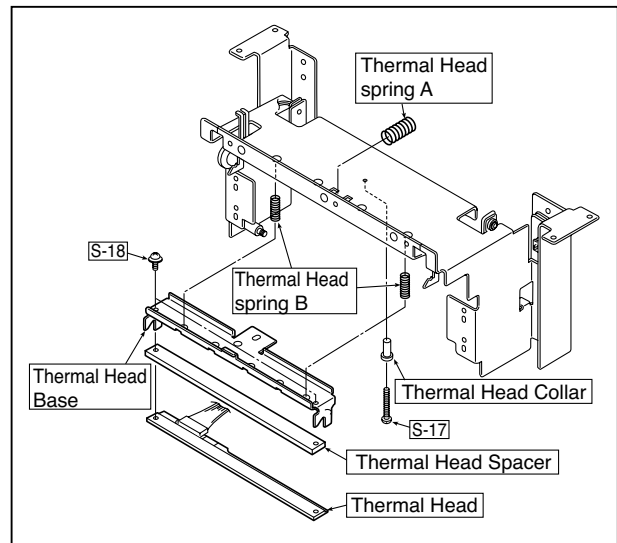

Fig.7
### 6) Remove the Thermal Head. (See Figs.7)
- 1.Remove the "S-17" screws shown in the figure 7.